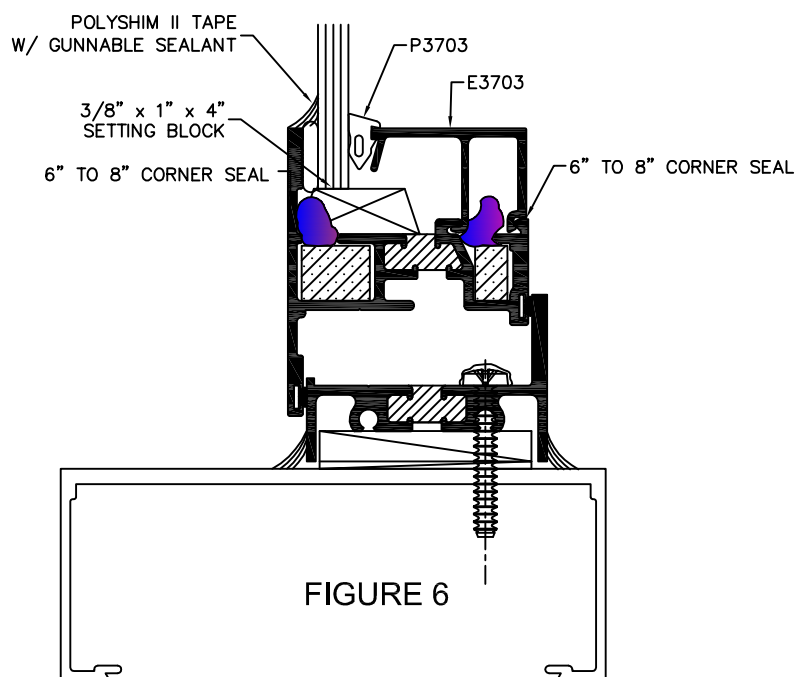

FIGURE 6
- B. USE E3703 FOR 1/4" GLAZING (SEE FIGURE 6).
4. APPLY CONTINUOUS FILLET BEAD AT PERIMETER, USING SKINNING TYPE SEALANT (SEE FIGURE 6).